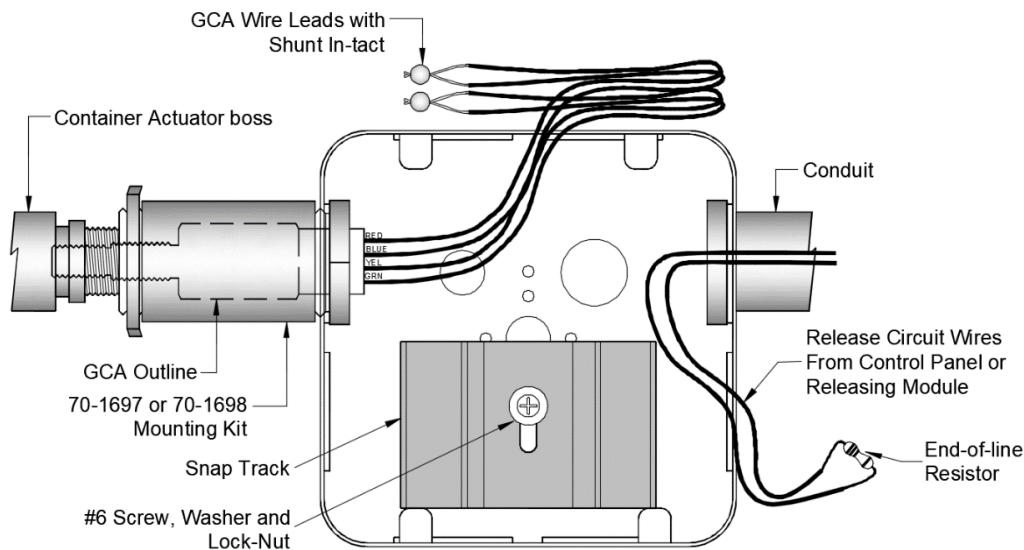

Figure 2 – ARM Mounting
2. Verify that the ARM junction box assembly has been installed on the suppression container. Each suppression container is furnished with a junction box assembly for mounting the ARM to the container's actuator boss (Figure 2). Refer to applicable suppression system manual for details.
6. Secure the snap track to the back of the junction box using the supplied screw, washer and lock-nut, as shown in Figure 2.